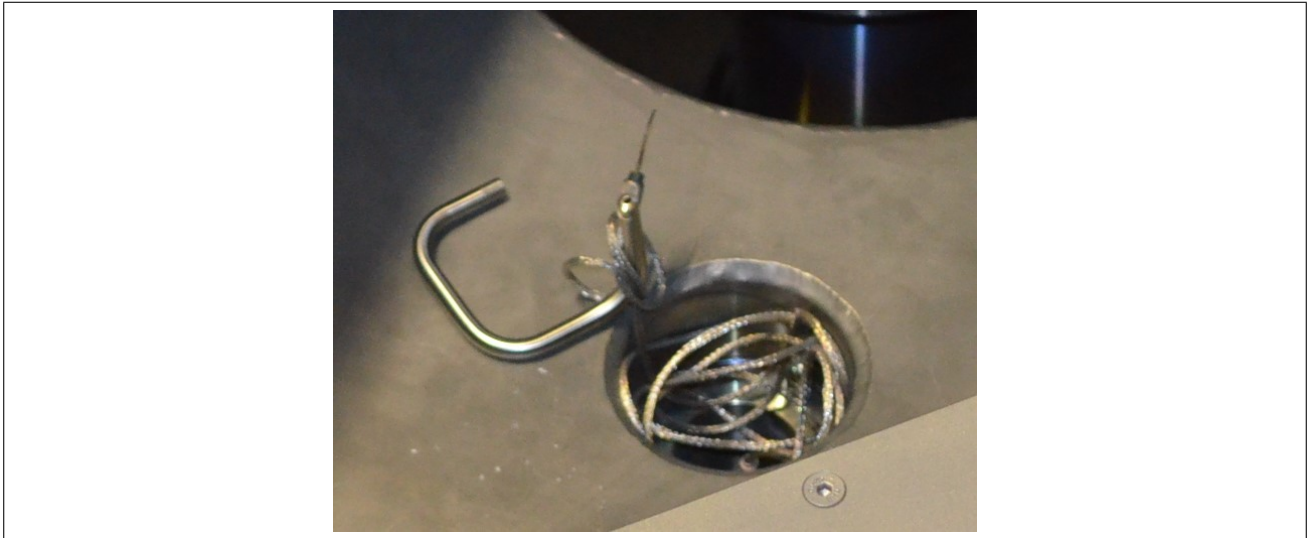

Figure 4: One of the antennae used on the Router side
15. A **high-vacuum SMA-cable** of which an image can be found in Figure 4 is connected to both throughputs. No further information available.